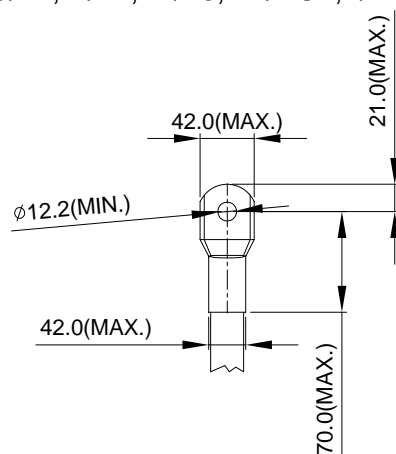

Figure 3
5. Figure 3 and Figure 4 shows the specification of insulated heat shrink tubing that comply with UL (600C, YDPU2).